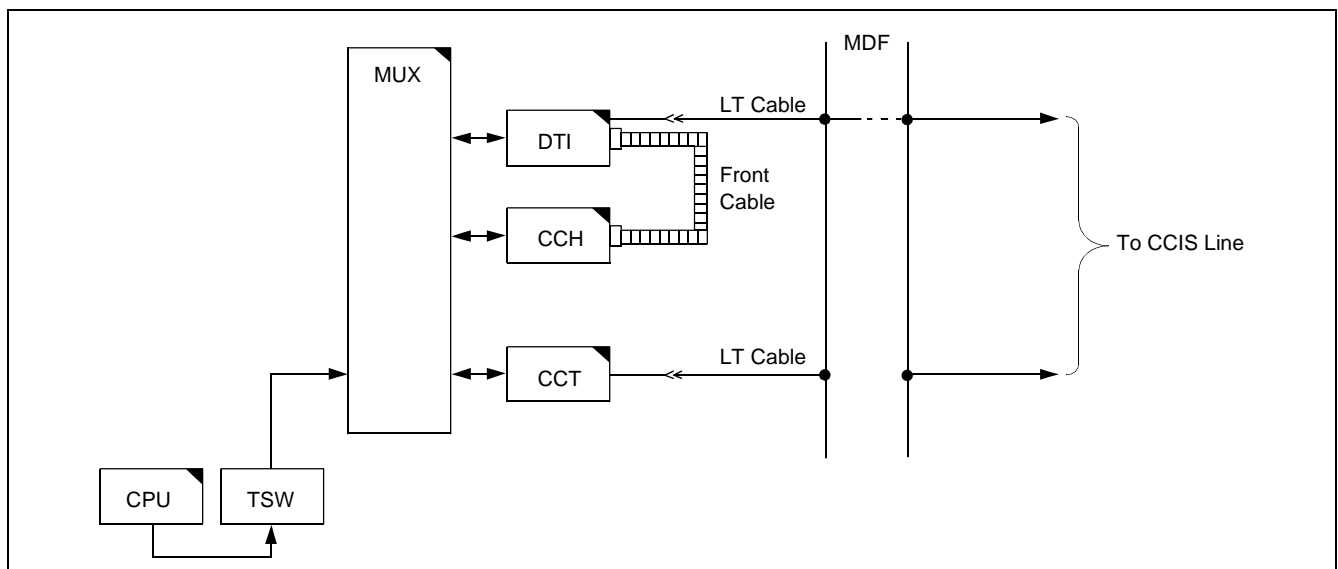

Figure 5-23 Controlling CCIS Line
- (1) Check alarm lamps on the CCH or CCT circuit card.
- (2) Refer to Figure 5-23, and check the cable connection.
A break in signal links is detected, then restored to establish signal links. The call processing information is converted into No. 7 signal format for channel 1 (any channel) of the DTI before being transmitted to a distant office. Figure 5-23 shows the CCIS line control route.